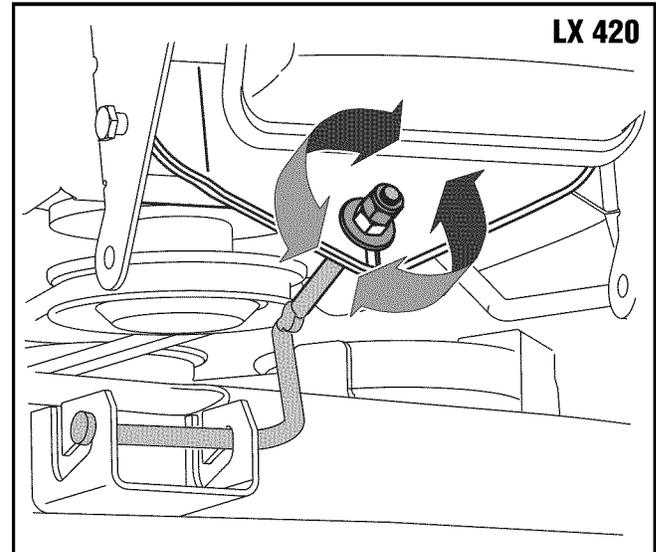

Figure 12
5. From the front of the tractor, loosen the outermost hex lock nut(s) on the end(s) of the deck hanger rod. See Figure 12 or Figure 13.
6. Tighten the inner hex nut(s) front against the front hanger bracket to raise the front of the deck; loosen the hex nut to lower the front of the deck. See Figure 12 or Figure 13.